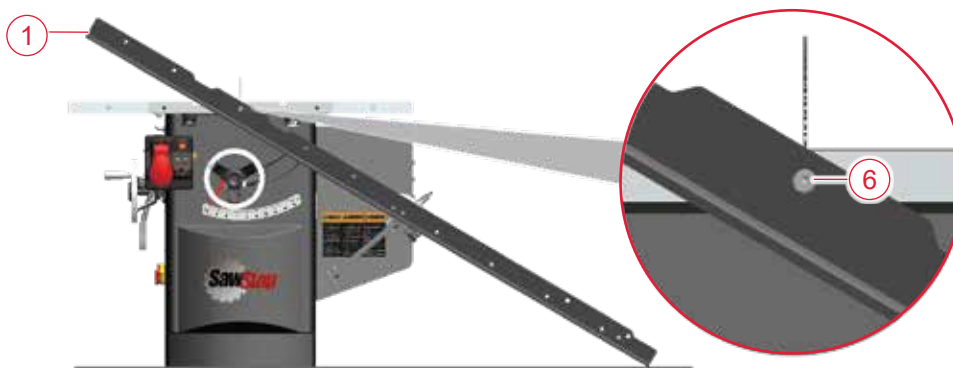

Fig. 2
**Front Rail:** The first step to install the fence is to attach the front rail to the table. The rails are shipped in the long cardboard box packaged with the main tube. The front rail (1) is the larger of the two and has 5 countersunk holes that are used to mount the rail to the front of the table. To mount the rail, begin by placing the rail on the floor next to the front of the saw. Lift the left end of the rail until the third hole from the left in the rail aligns with the center hole in the main table. Thread an M8 x 25 countersunk socket head bolt (6) into the threaded hole. (Fig. 2) Do not fully tighten.